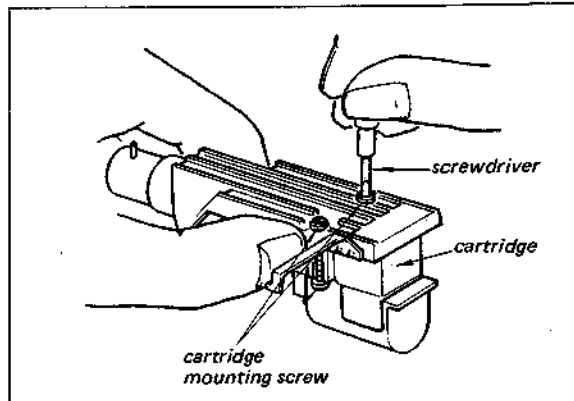

Fig. 2-14. Cartridge removal
3. Loosen the two cartridge mounting screws shown in Fig. 2-14.